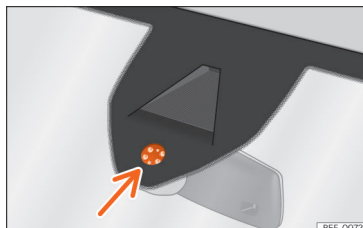

Fig. 78 Rain sensor sensitive surface
The possible causes of anomalies and erroneous interpretations *in the sensitive surface area* »» Fig. 78 of the rain sensor are, among others:
- **Dirt:** dry dust, wax, coating on glass (Lotus effect) or traces of detergent (car wash) may reduce the effectiveness of the rain sensor or make it react more slowly, later or not at all. Regularly clean the sensitive surface of the rain sensor »» Fig. 78 (arrow) and check for possible damage to the wiper blades.